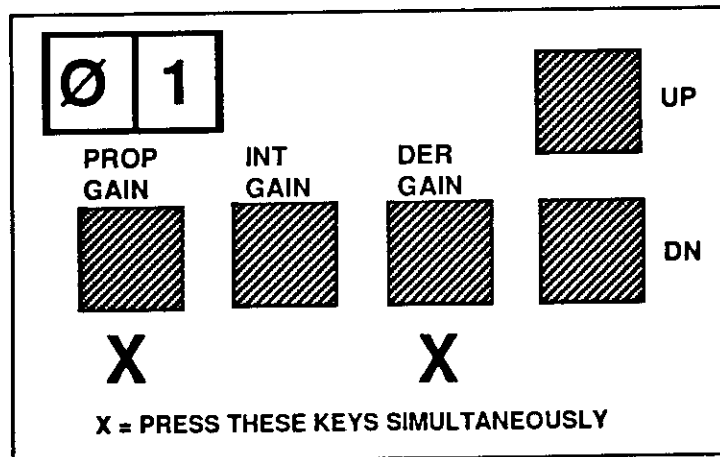

Figure 2-4. Confirm Device Address Setting
The default address setting for the JSI controller is **01**. To confirm that the JSI's device address is set to 1, push the PROP GAIN and DER GAIN button at the same time. The digits **01** will be displayed on the two-digit LED in the upper left corner of the JSI controller. Refer to Figure 2-4.
2. While holding the two buttons, push the DN button until the LED displays **01**. Refer to Figure 2-4.